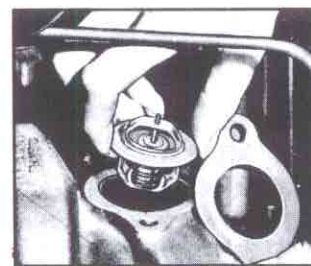

Fig. 47—Thermostat
2. Remove the two cap screws that attach the water outlet to the thermostat housing (fig. 47), and lift